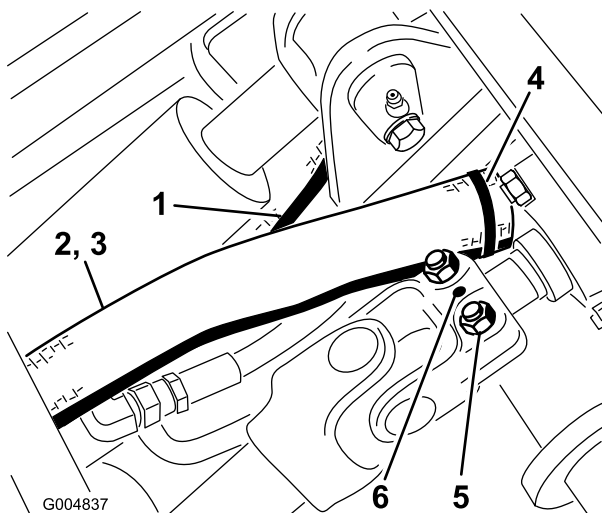

Figure 46
7. Connect the drive shaft to the gear box shaft in the winter frame and torque the bolts (5/16 inch) to 175-225 in-lb (20 to 25 N·m). Install the roll pin (Figure 46).